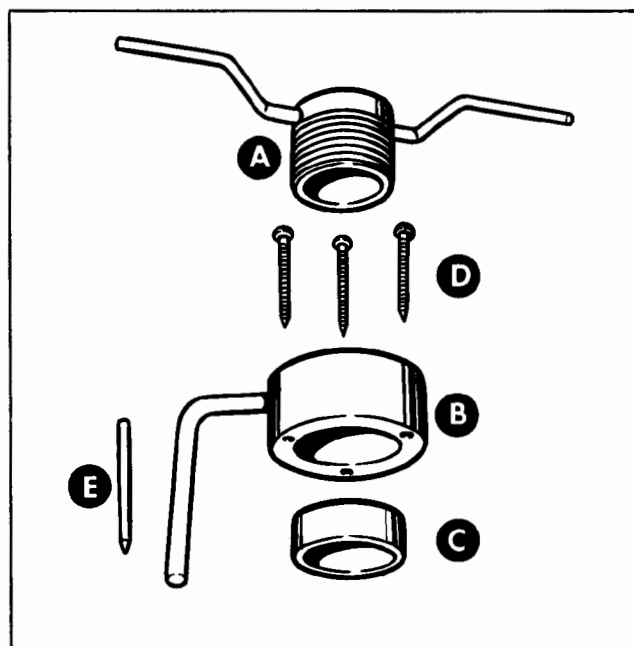
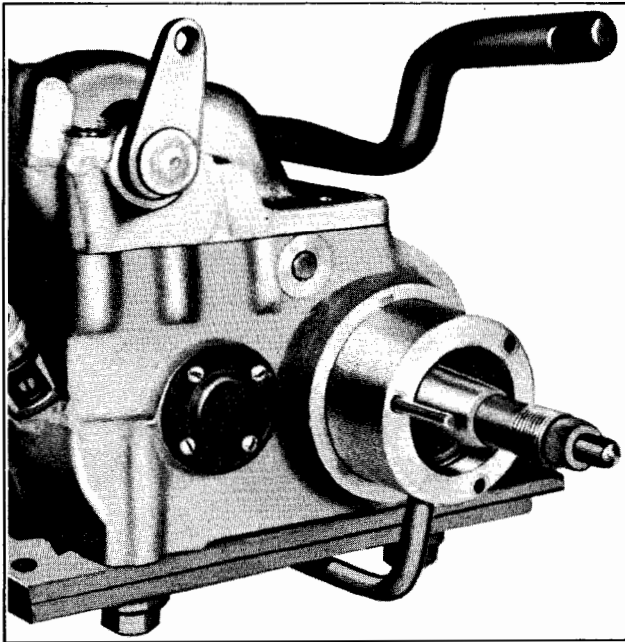

Figure 4-7. Main Drive Gear Oil Seal Tool
Figure 4-8. Centerpunching Screw Hole Locations
MAIN DRIVE GEAR OIL SEAL TOOL. Main Drive Gear Oil Seal Tool, Part No. 95660-42, (See Figure 4-28) (Figure 4-7) enables removing worn or damaged oil seal and installing new seal without removing or disassembling transmission. It may be used on transmission removed from chassis as well. To use, transmission must be assembled with the exception of clutch and countershaft sprocket.
Place sleeve (C, Figure 4-7) on end of main drive gear. Note: Electra-Glide requires 15/16 inch long Sleeve, Part No. 95666-42A. Slide body (B) over sleeve with body stop rod downward. Turn body clockwise until stop bears against transmission case or mounting plate. Hold body in this position and insert center punch (E) through each of the three holes in body and center punch oil seal as shown in Figure 4-8.
Insert sleeve (C, Figure 4-7) into oil seal. Place sleeve and seal on main drive gear with lip side of seal toward transmission case. Turn seal so it will not stake at same points old seal was staked.